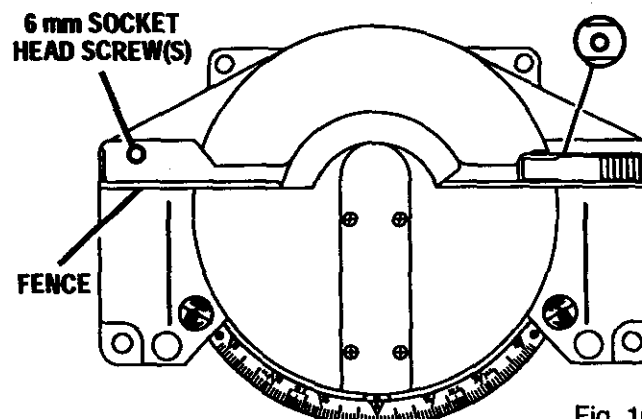

Fig. 16
- Using a 6 mm hex key, loosen the socket head screws securing the fence. See Figure 16. Adjust the fence left or right until the framing square and zero clearance throat plate are parallel.